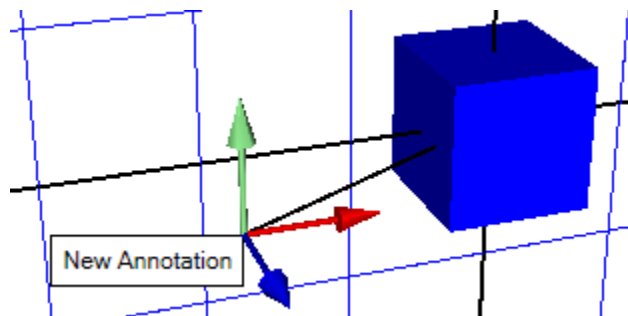

Figure 3.25 - Moving an Annotation
- If you single-click an unselected annotation, the move manipulator appears, as shown in Figure 3.25; you can move the annotation as you would any other object. Note that this behavior happens only when the annotation is not currently selected. If you want to move an annotation that is selected, exit the annotation's editing mode and then single-click the annotation.